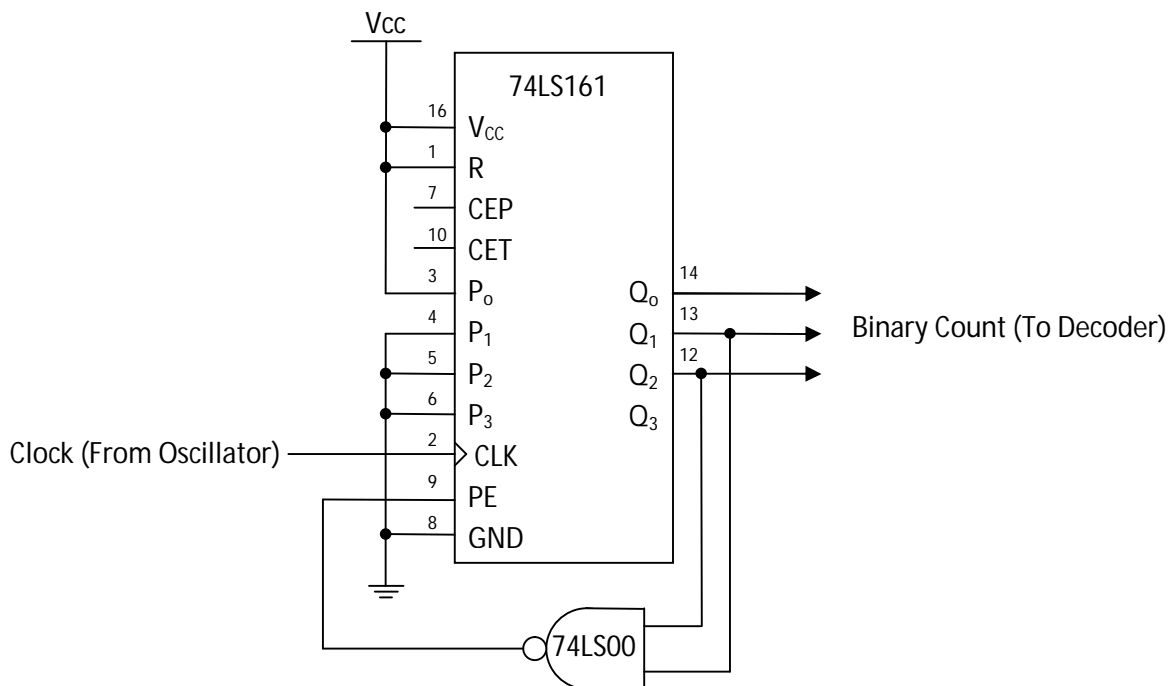

Figure 5 – Modulo 6 Counter
We can buy devices that count in binary (they are called, unimaginatively, binary counters). One such device is the 74LS161. This counter has 4 outputs, Q_3 , Q_2 , Q_1 and Q_0 that represent a binary number. On each rising edge of the clock, the count is cleared (if R is low), loaded to a preset value (if PE is low), or incremented. Counting up to 6 is easy because that is what the counter is designed to do, but to make it restart at 1 instead of counting to 7 we'll need to add circuitry. Figure 5 shows one way to make the counter count from 1 to 6 then repeat. When the counter reaches 6 (binary 0110), Q_2 and Q_1 are high (and Q_0 is low), so the NAND gate drives PE low. Consequently, on the next clock, the counter is loaded with 0001 (because P_3 , P_2 and P_1 are low while P_0 is high) and the cycle repeats. Reset (R) should also be tied high so the counter is never reset. CEP and CET are two other inputs that need to be connected properly for the counter to work. You will need to download and study the datasheet for the 74LS161 (try www.datasheetcatalog.com) to determine what to do with these two inputs.